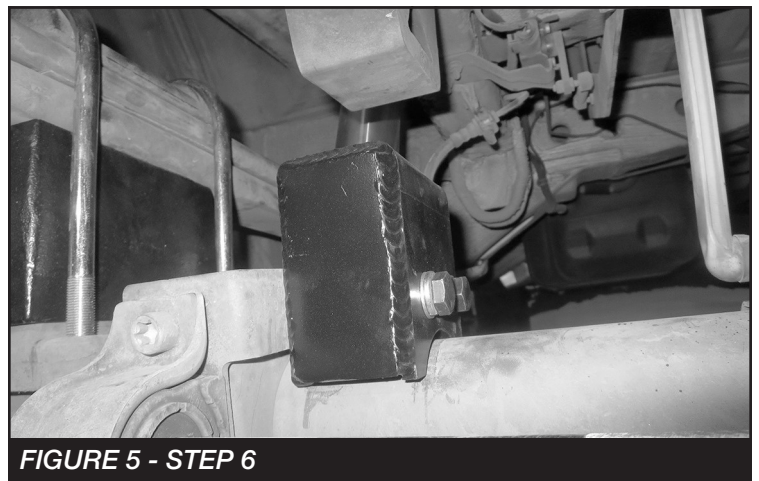

FIGURE 5 - STEP 6
6. Install FT19016 (Rear Bumpstop) using the supplied M10 bolts and washers. Torque to 49 ft-lbs. **SEE FIGURE 5**